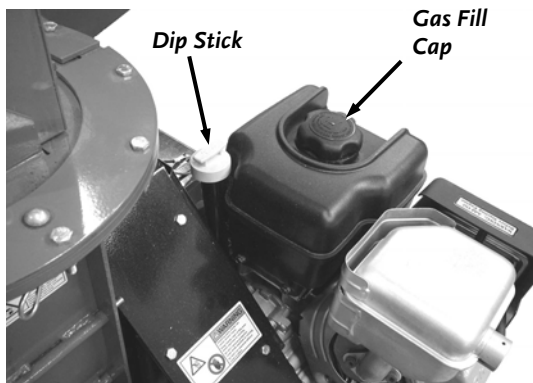

Figure 11
1. Place the machine on a level surface and remove the Dipstick (clean the end of the Dipstick with a rag) (**Figure 11**).
1. Remove the Gas Fill Cap and fill the Gas Tank with fresh, unleaded gas (with a minimum of 85 Octane) to approximately 1" to 1-1/2" below the top of the fill neck to allow for fuel expansion (**Figure 11**). Be careful not to overfill and reinstall the Gas Fill Cap before starting the engine. See your Engine Owner's Manual for more detailed information.